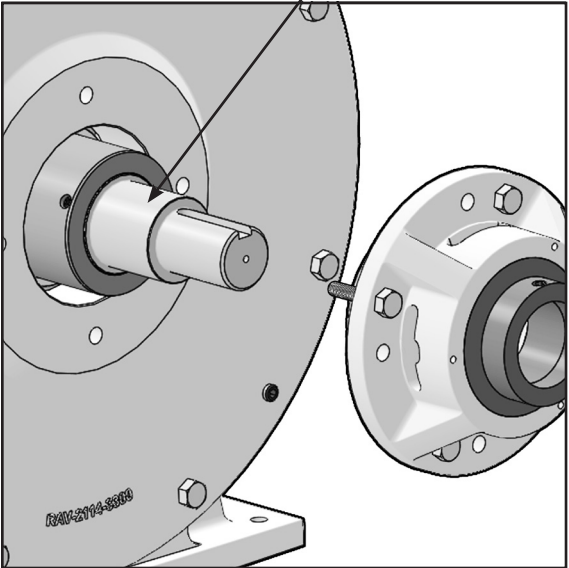

FIGURE 24
- 11. Remove any accumulated debris from rotor shaft using emery cloth (Figure 24).